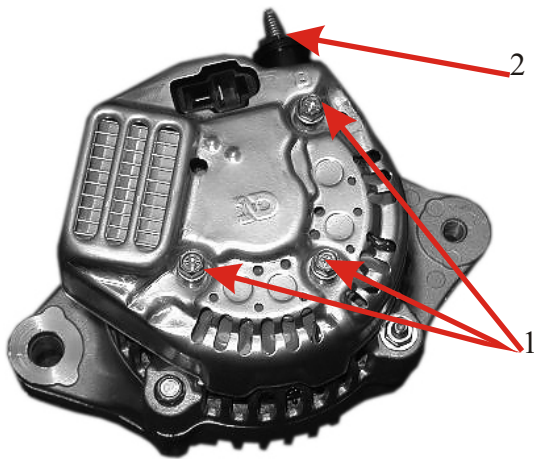

Fig.105
- Undo three screws on the rear cover of the alternator (Fig. 105, Pos. 1)
- Loosen contact stud nut and remove the cover (Fig. 105, Pos. 2)